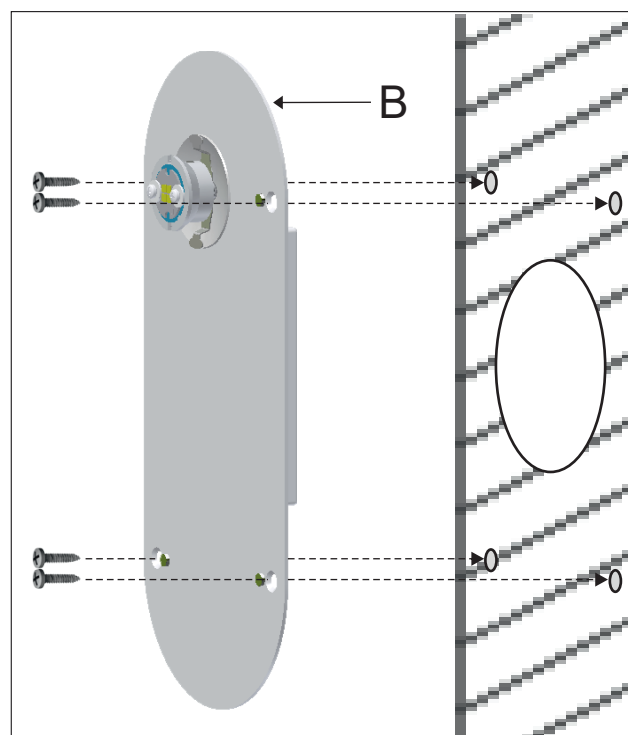

Figure 4
- 4 - Attach the mounting bracket (B) to the wall. Figure 4.